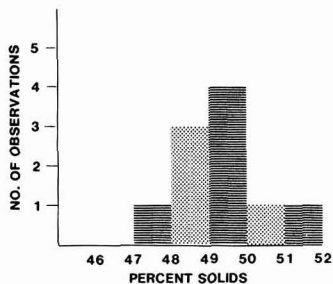
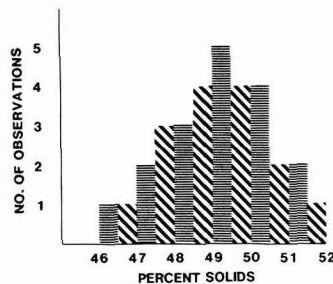
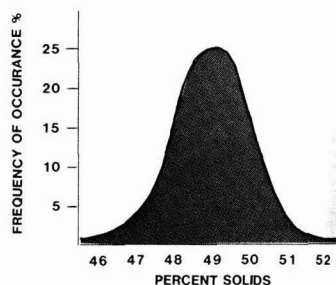

Figure 1—Plot of data from Table 2
Figure 2—Plot of data after additional observations
Figure 3—Distribution curve of data from Table 2
2). Next look at the interval count graphically (Figure 1). Now imagine what would happen if we had more samples and made additional observations and measurements of percent solids on them and at the same time created additional interval subdivisions. The picture would more than likely look like Figure 2. If we then repeated this process until we had a great number of observations and infinitesimally narrow intervals, we would expect the graph to arrive at the form shown in Figure 3. Incidentally, the vertical scale in Figure 3 has also been changed to percent frequency—a minor change from number of occurrences. This is called the normal distribution curve into which a lot of natural data and all data means fall. This distribution has several interesting properties. One is its obvious symmetrical bell shape. Another less obvious but extremely important property is that if it is partitioned at the inflection points, or places on the curve where the shape changes from convex to concave, as in Figure 4, about 2/3, or 68.3% to be more exact, of the total area under the curve is contained. At twice this interval on the horizontal axis we have 95.4% of the area, and at three times this interval there is 99.7% of the total area under the curve (Figure 5). What this means is that 68.3%, 95.4%, and 99.7%, respectively, of the results obtained in measuring the percent solids of this experimental resin lie within those intervals or limits. Expressing that just slightly differently, within each of those intervals we have the stated percent confidence that the true percent solids value for that product lies. It could also mean that that is the percent of the product our process will make within each of the limits. And of course the intervals are referred to as confidence intervals and the limits as confidence limits. If the difference between intervals and limits is confusing, think of the interval as a distance. The limit, on the other hand, is a single value which defines the interval.